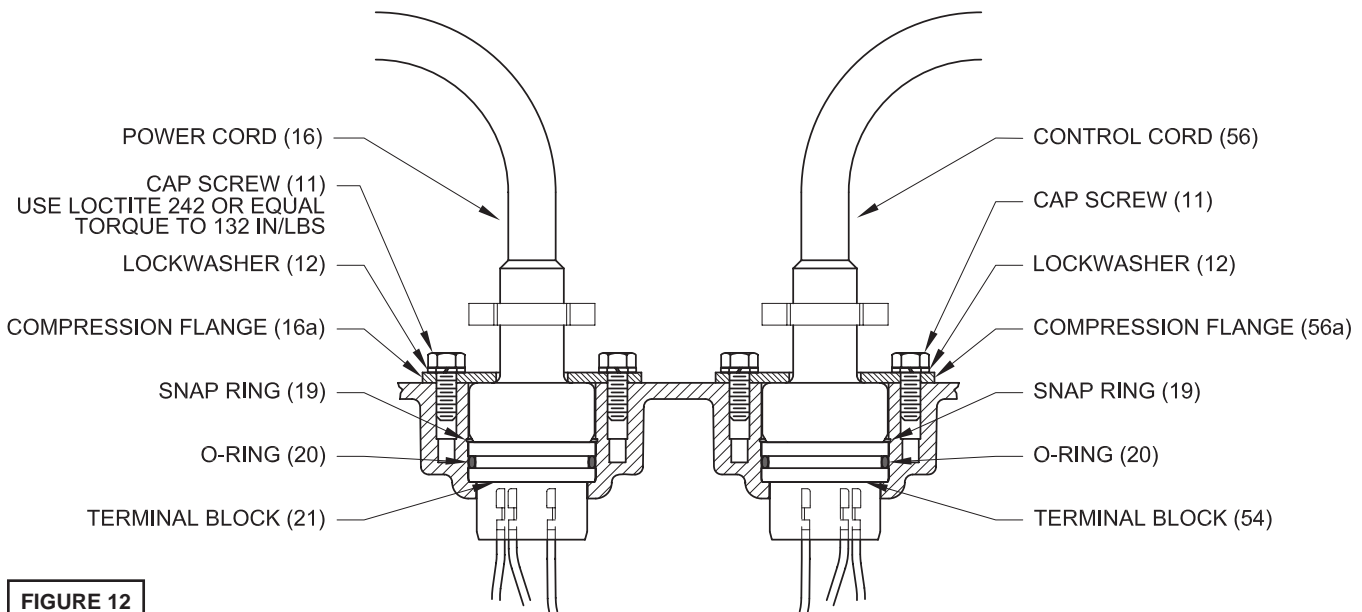

FIGURE 12
Check power cords (16) and control cord (56, if used), for cracks or damage and replace if required (see Figure 12). Make internal wiring connections which are independent of the terminal block as shown, using connectors (48) and wire assemblies (49) as required. **Do not** use wire nuts. Slip motor leads and ground wire into fiberglass sleeve. Lower motor housing (6) down onto seal plate (5) while aligning holes and stringing motor leads through the cord entry bore(s). (Slipping cords inside a 1 ft. length of .5" conduit makes this easier). Place socket head cap screws (64) through seal plate (5) into motor housing (6) and torque to 60 in-lbs. Reconnect motor and optional control leads to the underside of the terminal block(s) (21), (54 optional) as shown in Figure 14. Note that the pins are numbered underneath the terminal block. Place o-ring (20) into groove in terminal block and lubricate with dielectric oil.